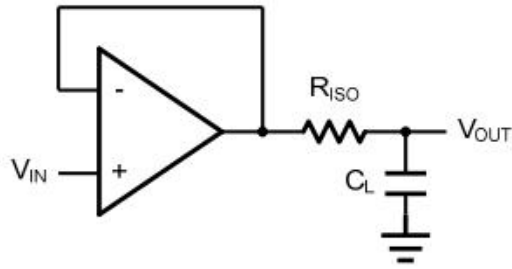

Figure 2. Indirectly Driving a Capacitive Load Using Isolation Resistor
The LMV602 is optimized for bandwidth and speed, not for driving capacitive loads. Output capacitance will create a pole in the amplifier's feedback path, leading to excessive peaking and potential oscillation. If dealing with load capacitance is a requirement of the application, the two strategies to consider are (1) using a small resistor in series with the amplifier's output and the load capacitance and (2) reducing the bandwidth of the amplifier's feedback loop by increasing the overall noise gain. Figure 2. shows a unity gain follower using the series resistor strategy. The resistor isolates the output from the capacitance and, more importantly, creates a zero in the feedback path that compensates for the pole created by the output capacitance.
The circuit in Figure 3 is an improvement to the one in Figure 2. R_F provides the DC accuracy by feed-forward the V_{IN} to R_L . C_F and R_{ISO} serve to counteract the loss of phase margin by feeding the high frequency component of the output signal back to the amplifier's inverting input, thereby preserving the phase margin in the overall feedback loop. Capacitive drive can be increased by increasing the value of C_F . This in turn will slow down the pulse response.